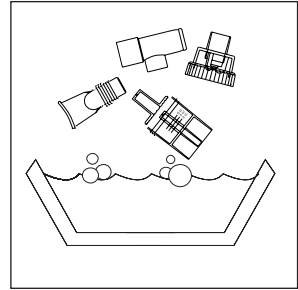

Figure 8
1. Using a clean container or bowl, soak items in three parts hot water to one part white vinegar for 30 minutes (**Fig. 8**) OR use a medical bacterial-germicidal disinfectant available through your provider. Be sure to follow manufacturer's instructions carefully.